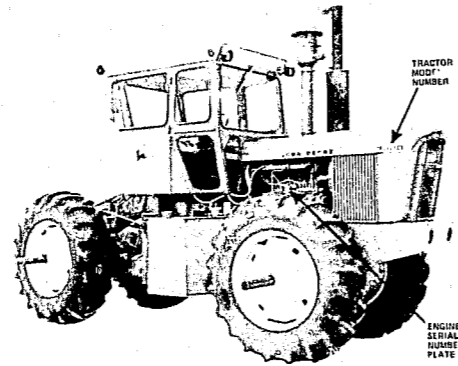

Figure 1
- The model number appears on the sides of the tractor and also on the tractor serial number plate. (See Figure 1)